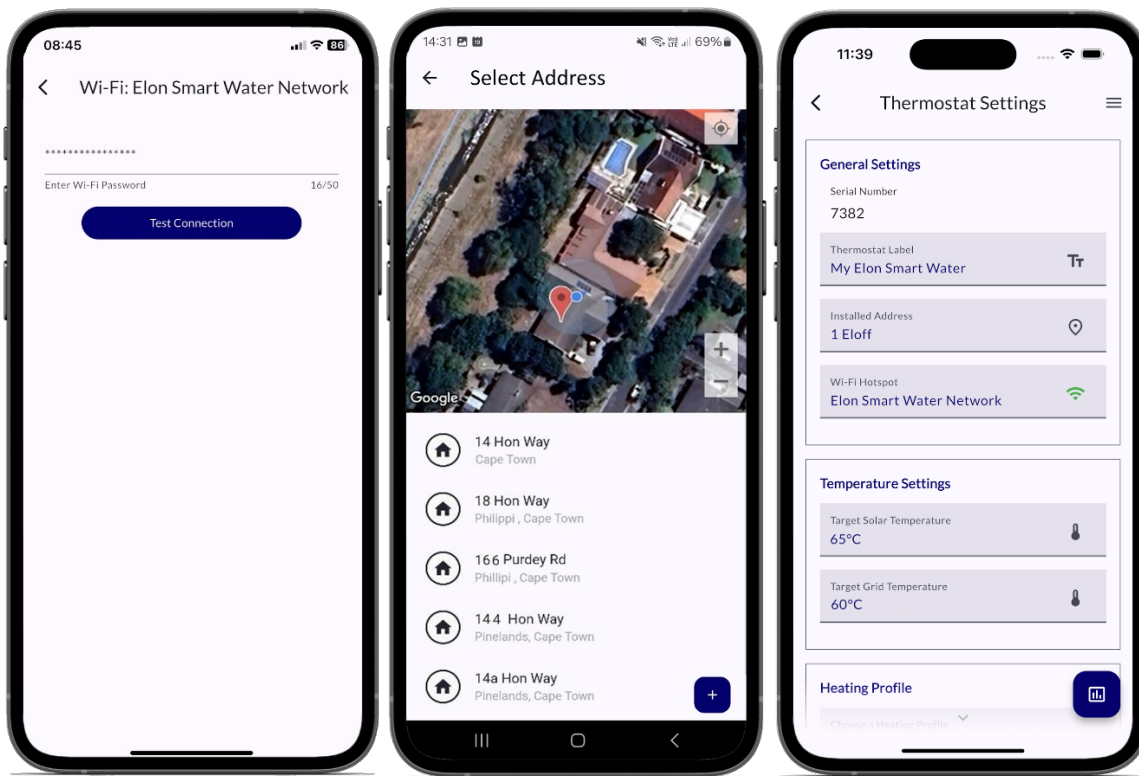

Figure A2 From left to right: Enter Wi-Fi password; Select address; Heating settings
9. The application will ask for a password for the network you selected **Figure A2**).
13. The app should connect to the server and obtain a list of addresses corresponding to your GPS co-ordinates (**Figure A2**). (You might need to switch on your phone GPS and allow the app to use your location services.)
15. The app should take you back to the **“Thermostat Settings”** screen (**Figure A2**).